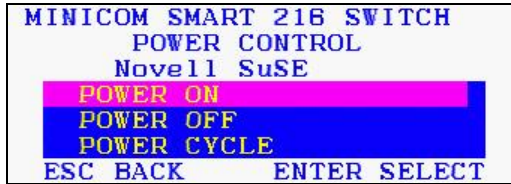

Figure 28 Power Control dialog box
2. Press left **Shift, F12**. The Power Control dialog box appears, see Figure 28.